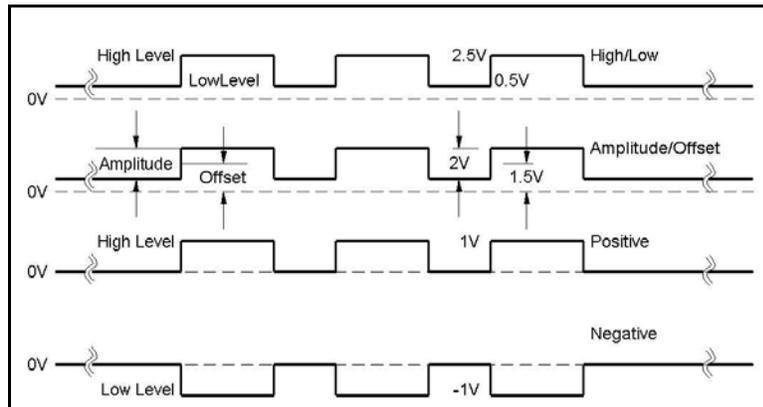

Figure 3-72, Amplitude Level Modes Options
Using the WX2182B as your pulse source, you have four options to set up the pulse levels, as shown in Figure 3-72 and explained below:
1. **High/Low Levels.** This is the default option. Using this mode, you can program the high and the low levels directly, while allowing the instrument to set the internal amplitude and offset according to your selection. The maximum amplitude that can be programmed is 4 V peak-to-peak. To achieve this level, program the low level to -1.5 V and the high level to +1.5 V. Note that the amplitude level is specified when the pulse is applied on a 50 Ω load impedance. The only way to exceed the peak-to-peak rail limitation is by increasing the load impedance, but then expect degradation of the pulse shape. The example in Figure 3-72 shows the high level set at 2.5 V and the low level set at 0.5 V and therefore, the resulting peak-to-peak level is 2 V.
2. **Amplitude/Offset.** This option allows separate modification of the amplitude and the offset. This option is very useful when you want to vary the vertical position of the pulse, but hold the peak-to-peak amplitude level fixed. The example in Figure 3-72 shows the amplitude set at 2.5 V and the low level set at 1.5 V and therefore, the resulting waveform is exactly as was programmed in the high/low level programming example.
3. **Positive.** This option is very useful when you want to vary the positive position of the pulse, but hold the low level fixed at the 0 V level. The example in Figure 3-72 shows the high level set at 1 V and the low level fixed at 0 V. Modification of the high level will not alter the low level position.
4. **Negative.** This option is very useful when you want to vary the negative position of the pulse, but hold the high level fixed at the 0 V level. The example in Figure 3-72 shows the low level set at -1 V and the high level fixed at 0 V. Modification of the low level will not alter the high level position.